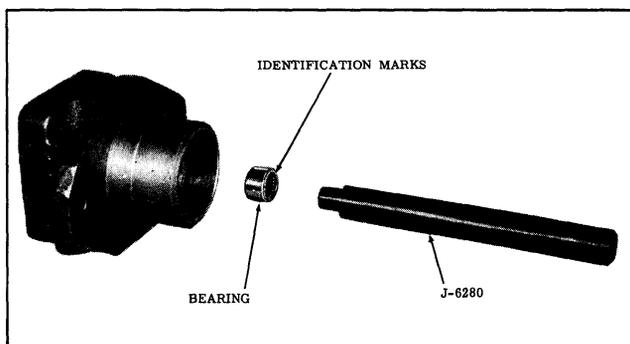

Fig. 5-79 Needle Bearing and Driving Tool
3. If the needle bearing was removed, install bearing using Tool J-6280. (See Fig. 5-79)